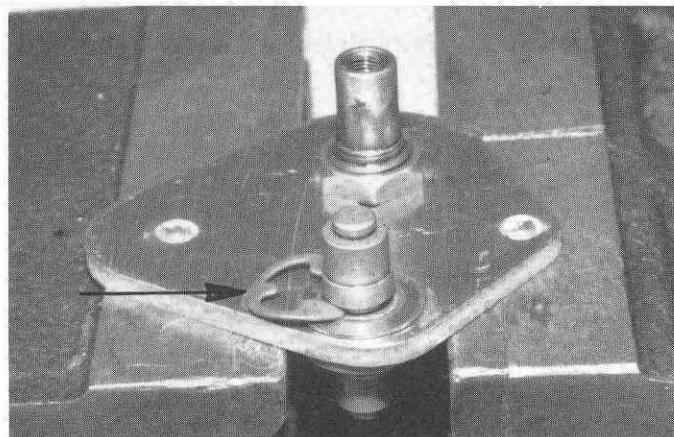

Fig. 34
□ **Fig. 34** Install the large curved "E" clip, as shown, with the center up, and the ends down.